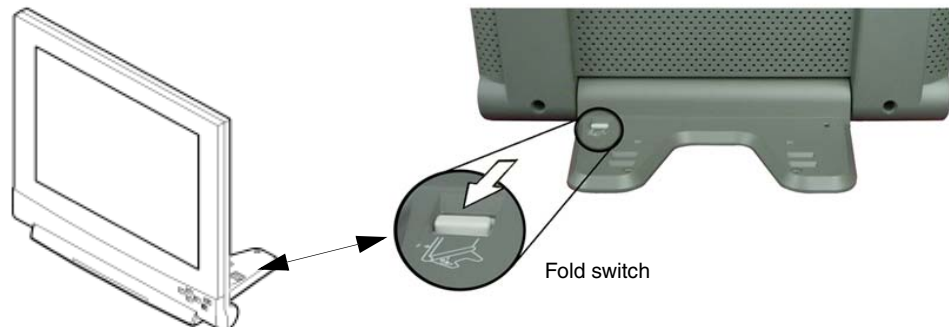

FIG. 8 Unfolding and angling the display by using the Fold switch
2. Use the Fold switch (FIG. 8) to lock the angle of the stand.
1. Carefully use both hands to close the display stand by pulling back on the Fold switch (FIG. 8).